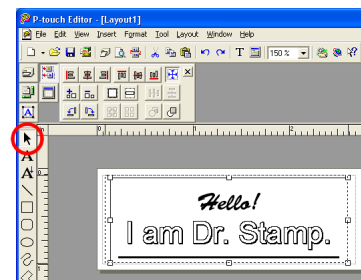

figure 18
- 2 Drag a handle to adjust the frame to the desired size (see figure 18).